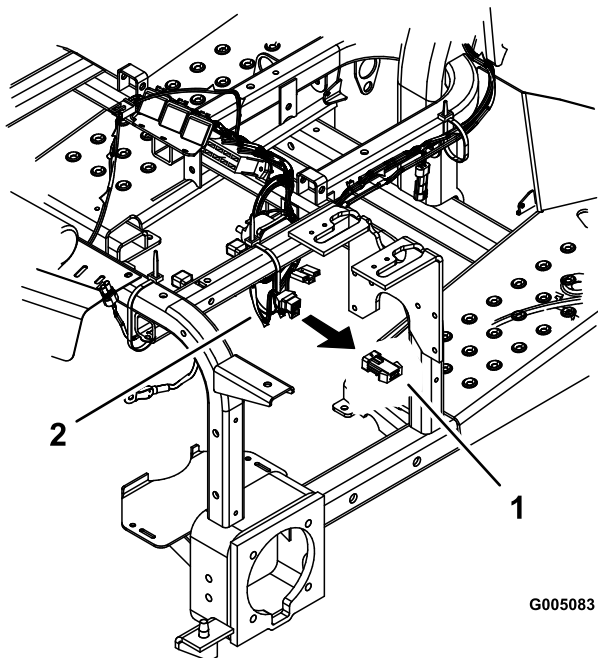

Figure 33
5. Remove the jumper wire from the main harness under the control panel (Figure 33).